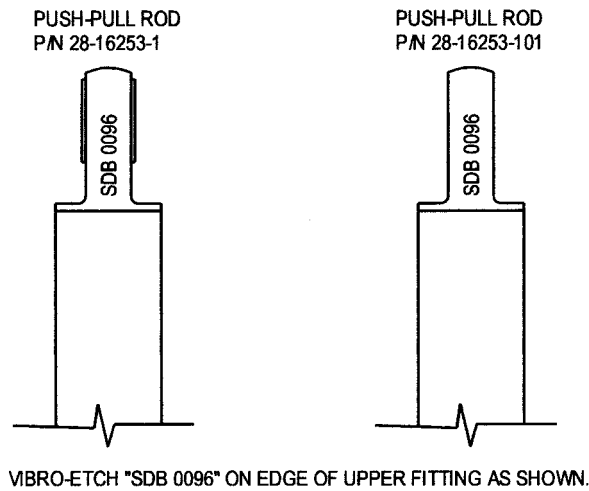

Figure 4. Push-Pull Rod Marking
- 6.12 Vibro-etch "SDB 0096" on the upper rod fitting as shown in Figure 4. Do not etch the top of the fitting.